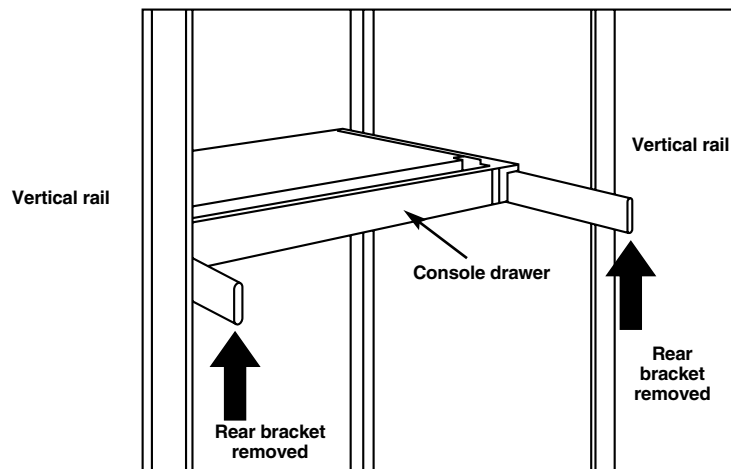

Figure 3-5. Front brackets support the console drawer.
5. Remove both of the loosely connected rear brackets and slide the console drawer out halfway to balance its weight. (See Figure 3-5.) The front brackets are now supporting the console drawer.